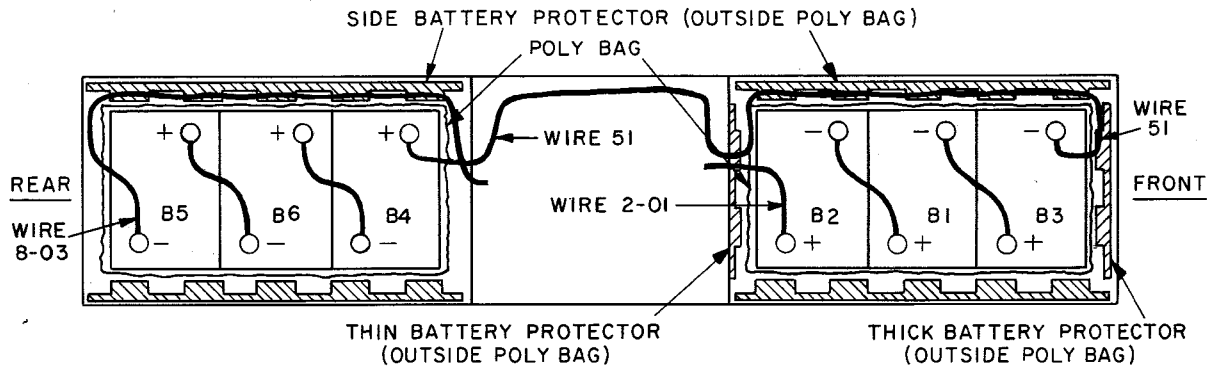

Figure 7. E10M Battery Wiring
4. Place one of the long, vacuum-formed, battery protectors along each side of the poly bag (outside) so the corrugations will face the battery walls. (See Figure 7.)
5. Place the short sections of battery protectors in similar fashion at the ends of the compartment with the thicker one at the front as shown in Figure 7.
6. Carefully set three batteries in the bag as shown in Figure 7 observing polarity markings. Make sure the sides of the bag remain above the top surface of the batteries in equal amounts. (It may help to tape the upper edges of the bag to the tractor sides temporarily to permit easy insertion of the batteries.)
7. Connect the battery cables in accordance with Figure 7. Observe clamp polarity markings. Coat the terminals, after connections are made, with a thin film of Battery Terminal Protective Grease, AP31. Make sure all surfaces are coated!
6. Place one of the long vacuum-formed battery protectors along each side of the poly bag (outside) so its corrugations will face the battery walls. (See Figure 7.)
7. Carefully set the batteries in the bag as shown in Figure 7 so that the sides of the bag remain above the top battery surface in equal amounts and all wires are accessible.
8. Connect the battery cables and wires in accordance with Figure 7. Coat the terminals after connections are made with a thin film of Battery